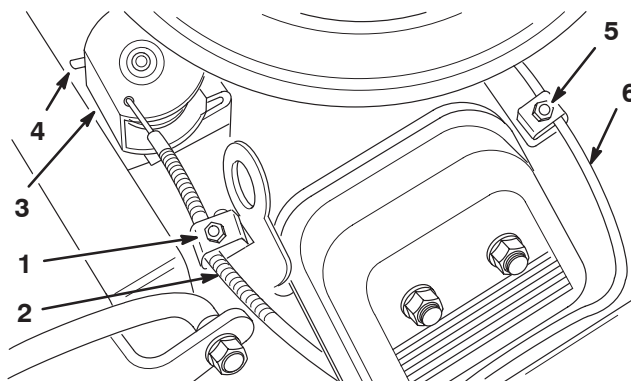

Figure 17
2. Loosen the cable clamp screw securing the cable to the engine (Fig. 17).
4. Pull firmly on the throttle cable until the back of the swivel contacts the stop (Fig. 17).
4. Pull firmly on the choke cable (Fig. 17) until the choke butterfly is completely closed; then tighten the cable clamp screw.